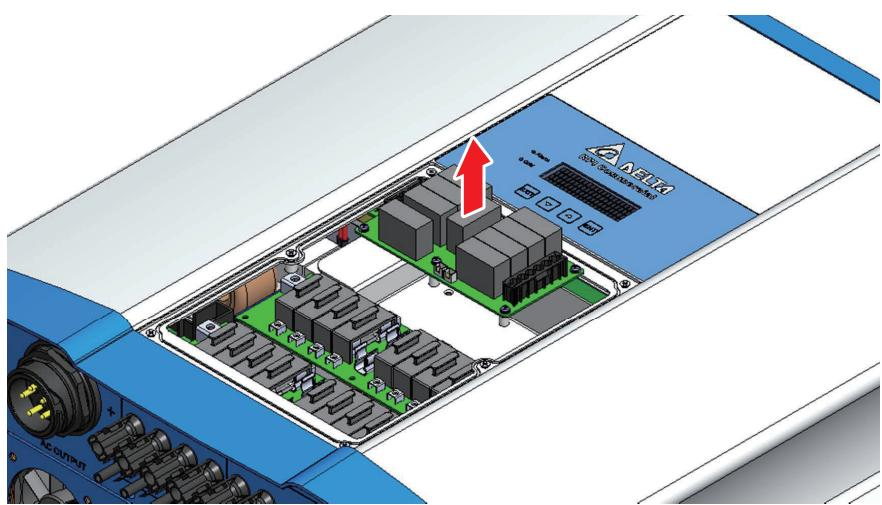

Figure 6-4 : Pull out the SPD unit
5. Pull out the SPD unit. (*Figure 6-4*)